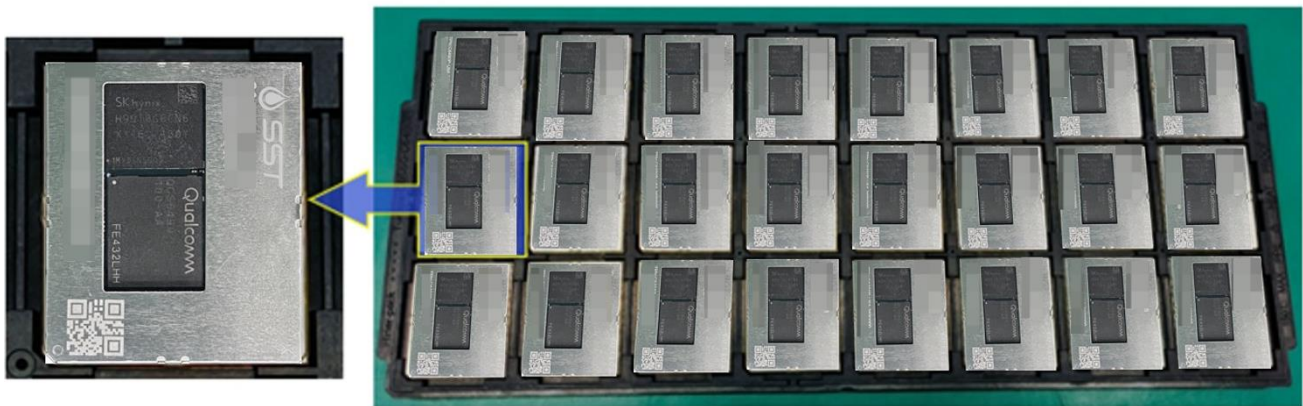

Figure 4-1. Tray Packaging
- Place the tray on the workbench with the outer diagonal corner in the bottom left position, as shown in Figure 4-1.